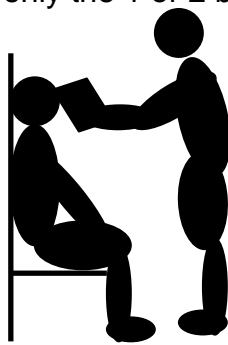

Fig.6 Patient Operator position
1. Sit the patient so that his head touches a wall without tilting up, and so to stay just in a higher position than he is (fig. 6).